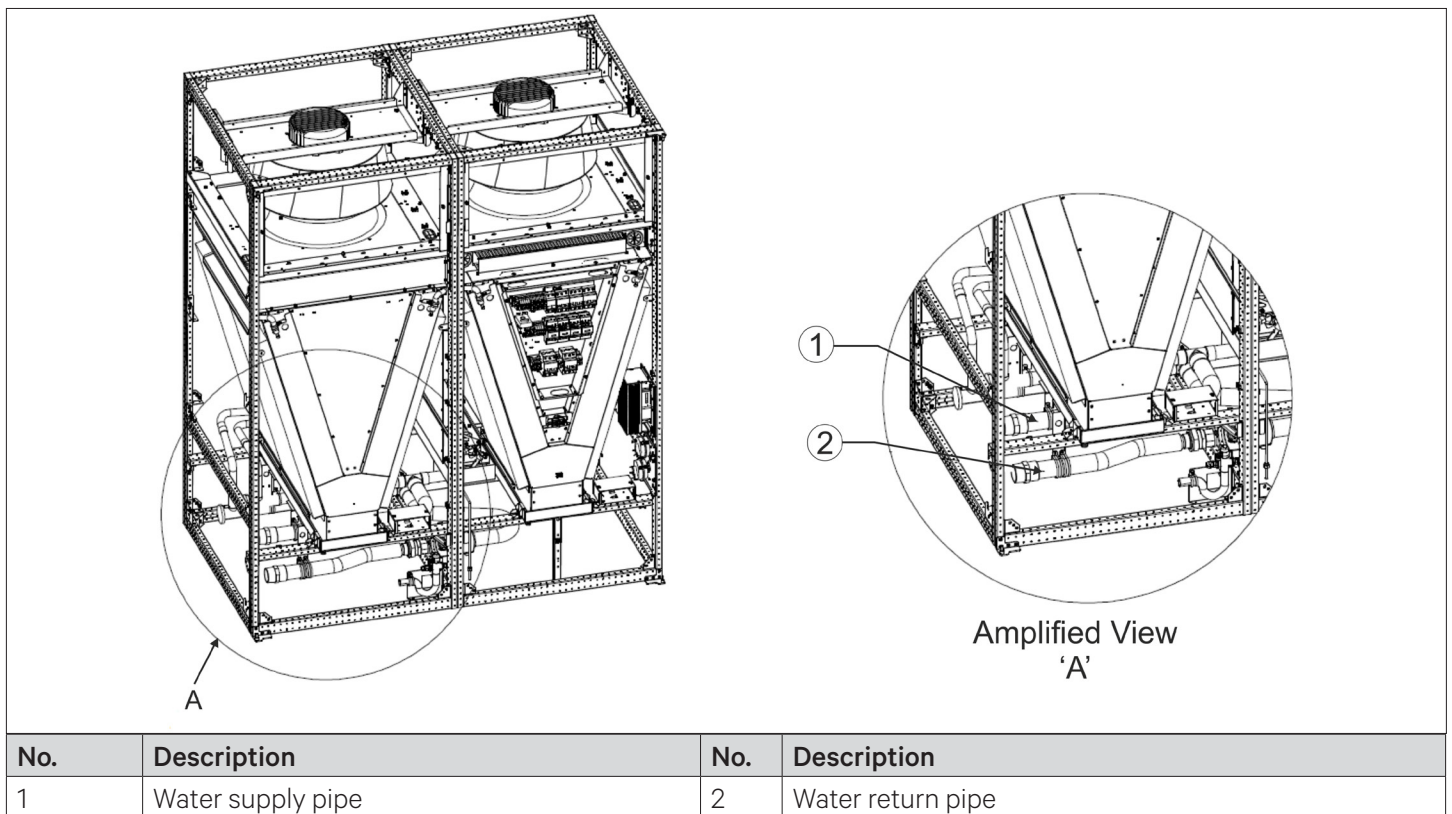
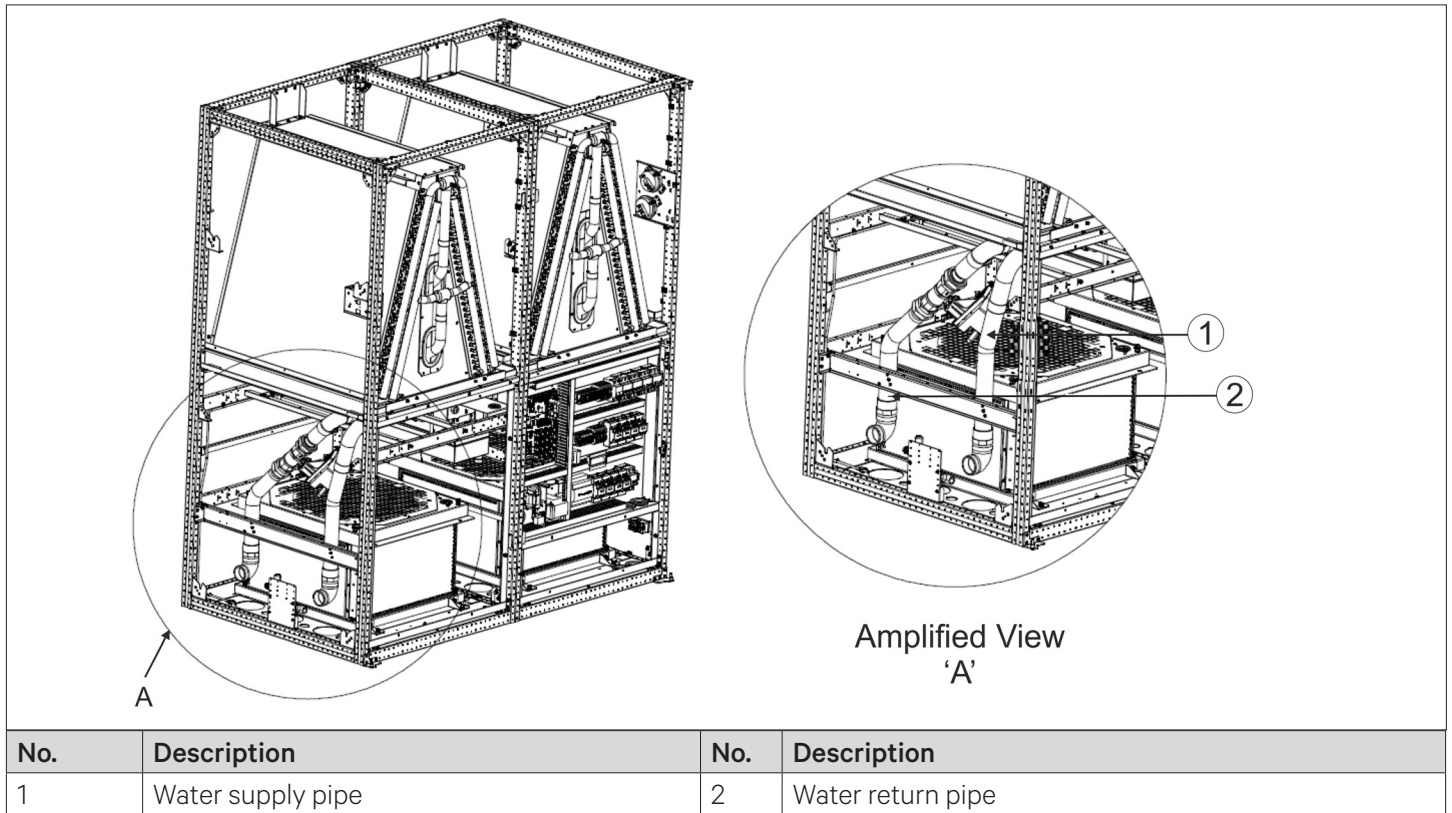

Figure 4-16 Connection of Chilled Water Supply and Return Pipes (upflow units)
Figure 4-17 Connection of Chilled Water Supply and Return Pipes (downflow units)
- The chilled water supply and return pipes are connected with the Air Handling Unit (AHU) by threaded connector (optional flanges or copper brazing mode), as shown in Figure 4-16 and Figure 4-17. The supply and return pipes should be brazed according to the labels on the unit. Do not reverse the connection. Chilled water supply and return pipes can be connected through the base pallet or the side panel. The chilled water supply pipes should be equipped with the water filter with over 60 meshes to facilitate the clearance of impurities in the pipes.